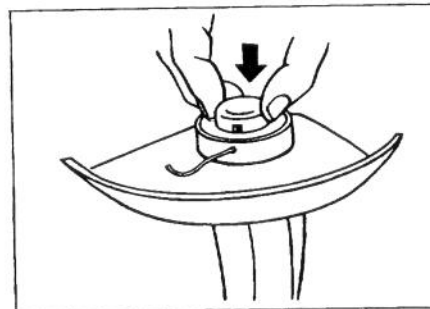

Figure 19
4. If line should tangle or break at eyelet, refeed cutting line through eyelet by pushing spool in as far as it will go and threading line back through eyelet. Or you may remove spool completely, refeed the line through the eyelet and reassemble spool to Trimmer (Fig. 19).